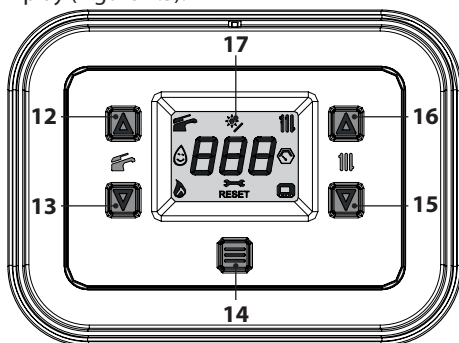

Figure 2.3
- Press button 14 for 1 seconds until both symbols  and  appear on the display (Figure 2.3).